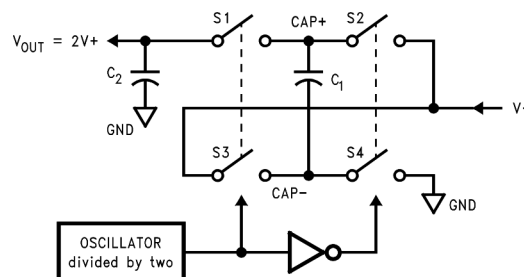

Figure 10. Voltage Doubling Principle
The LM2665 contains four large CMOS switches which are switched in a sequence to double the input supply voltage. Energy transfer and storage are provided by external capacitors. Figure 10 illustrates the voltage conversion scheme. When S_2 and S_4 are closed, C_1 charges to the supply voltage V_+ . During this time interval, switches S_1 and S_3 are open. In the next time interval, S_2 and S_4 are open; at the same time, S_1 and S_3 are closed, the sum of the input voltage V_+ and the voltage across C_1 gives the $2 \cdot V_+$ output voltage when there is no load. The output voltage drop when a load is added is determined by the parasitic resistance ($R_{DS(on)}$) of the MOSFET switches and the ESR of the capacitors) and the charge transfer loss between capacitors. Details are discussed in Application and Implementation.
- R_{SW} is the sum of the ON resistance of the internal MOSFET switches shown in Figure 10. (1)